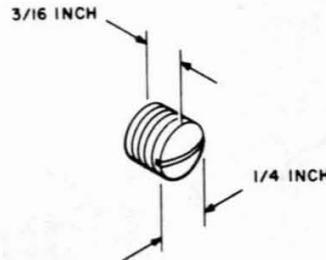

Fig. 4—B Screw Plug
3.01 The B screw plug (Fig. 4), rated Manufacture Discontinued, is a tinned brass set screw. It is used to seal 1/4-inch drilled holes made for flash testing solder work on lead sheaths and sleeves.